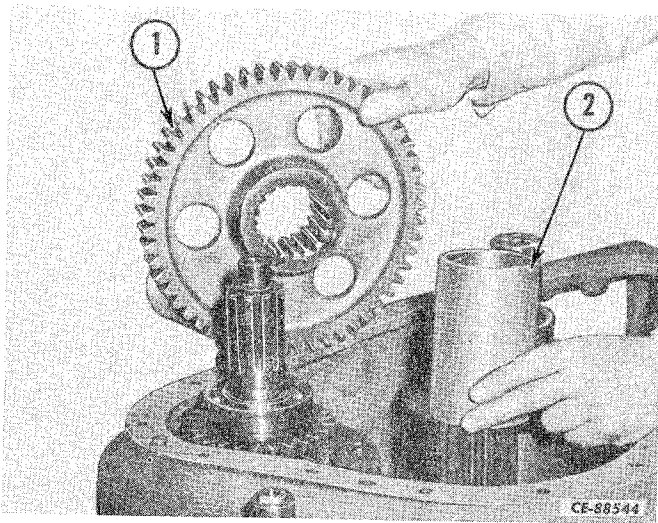

Figure 4-33
Remove the forward driven gear (1, Fig. 4-33) and the spacer (2) from the countershaft.